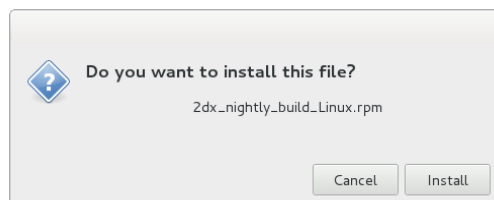

Figure 10: Installation dialog on Fedora
2. Next you are asked whether you really want to install the packages (Figure 10).